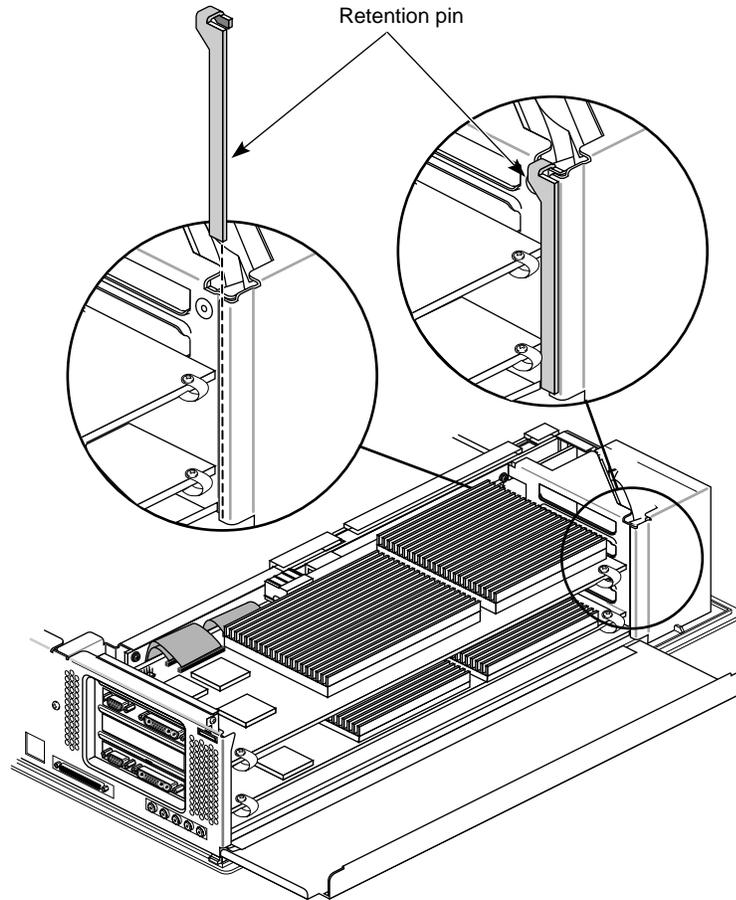

Figure 1-13 Replacing the Retention Pin
9. Hang the retention pin so that it sits in front of the board set, between the board set and the metal panel. See Figure 1-13